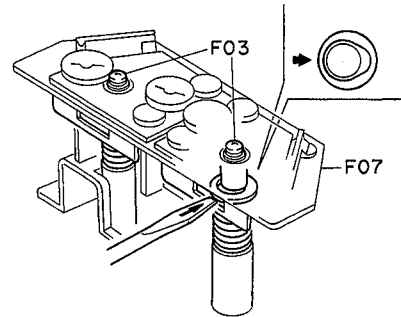

Fig. 2.11.2
- (b) Mount F07 (Head Mount Base Ass'y) and fasten F03. Then push the Plate Washer with a blade of screwdriver to set the Plate Washer free. Refer to Fig. 2.11.2.